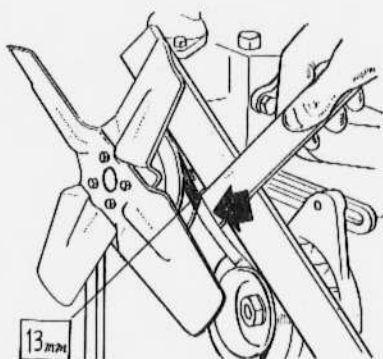

Figure 159 -- Fan Belt Adjustment
- (4) Inspect fan belt. Replace if badly worn. Adjust belt to proper tension. See Fan Belt Adjustment in this section (Fig. 159).
- (5) Inspect all radiator hoses. If hoses are collapsed, cracked or in any way indicate a rotted condition on the inside, replacement should be made. Carefully check and tighten all hose clamps.
- (6) Check the thermostat. Make sure it does not stick open or closed.
- (7) Fill the cooling system with the proper quantity of anti-freeze and water according to instructions of manufacturer of anti-freeze.